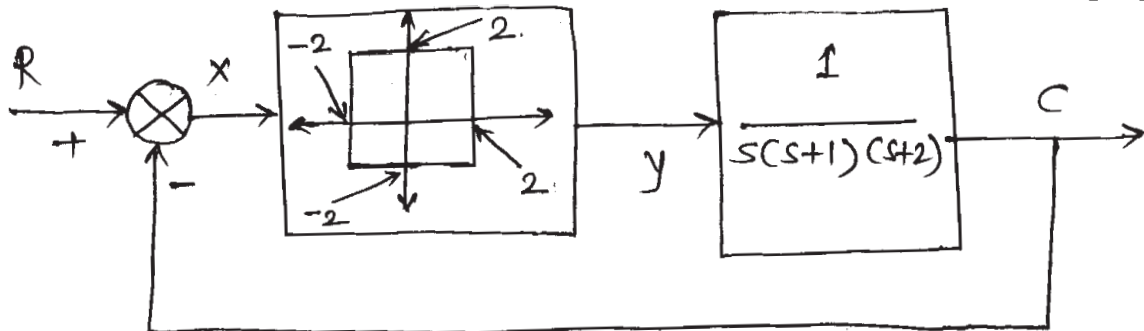

Fig. 3.
- Q3) Consider the system shown in fig. 3. Find the amplitude and frequency of limit cycle. Also comment on nature of limit cycle (s) and stability of system. [16]